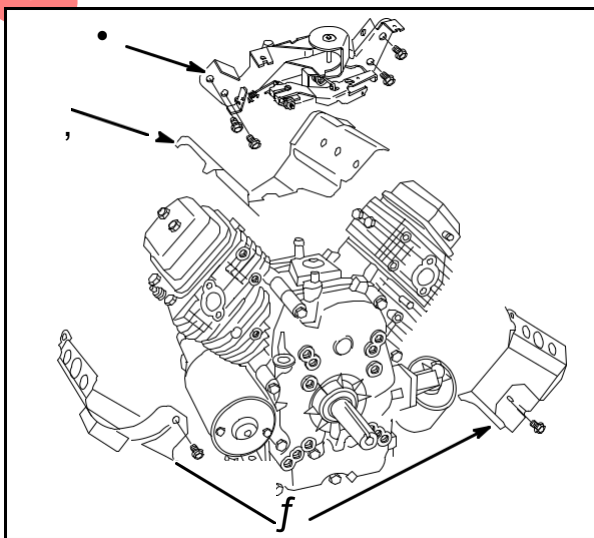

Fig. 12
Remove governor control bracket (1), **Fig. 12**.